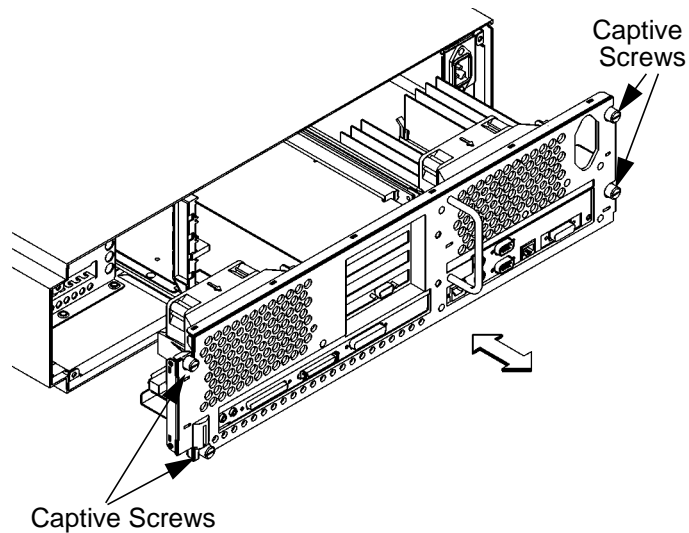

Figure 35
- 4 Completely loosen the four captive screws on the rear of the system unit, as shown in Figure 35.
- 5 Place one hand on the top of the system unit and push, while pulling the handle on the rear panel with your other hand. See Figure 35.